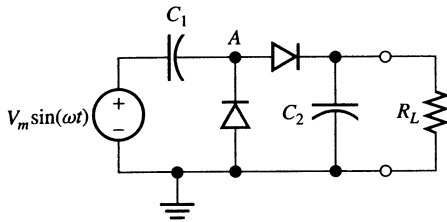

Figure P3.32
3.32. Voltage-doubler circuit. Consider the circuit of Figure P3.32. The capacitors are very large, so that they discharge only a very small amount per cycle. (Thus, no ac voltage appears across the capacitors, and the ac input plus the dc voltage of C_1 must appear at point A.) Sketch the voltage at point A against time. Find the voltage across the load. Why is this circuit called a voltage doubler? Determine the peak inverse voltage across each diode in terms of V_m .